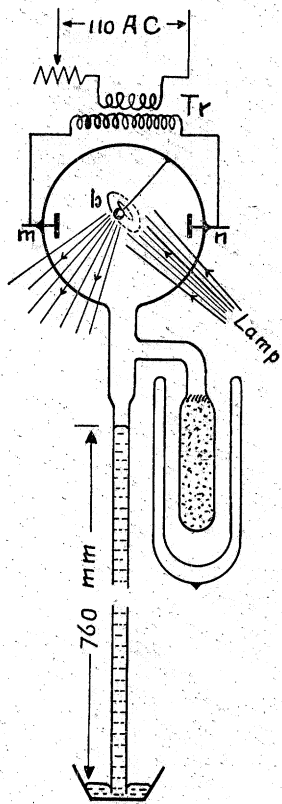

Fig. 1.
a) Attach to the discharge vessel a barometric tube set in a dish of mercury, as shown in Fig. 1. As the air is absorbed by the charcoal cooled to the temperature of liquid air the mercury rises in the barometric leg giving a visual indication of the degree of exhaustion.
b) Seal in two electrodes (shown by *m* and *n* in Fig. 1) to which are attached wires from an induction coil, or from the secondary of a small transformer. As the exhaustion proceeds the electric discharge will begin to pass when the Geissler vacuum is reached. This is a very accurate indicator.
c) Mount a small pyrex glass bead delicately on a long slender solid fiber of the same glass within the discharge vessel. When thus mounted (Fig. 1, *b*) the bead will be free to vibrate in any azimuth, and may be set in motion by gently jarring the vessel. When the pressure within is atmospheric the vibrations are soon damped out, however as the pressure is reduced (by the charcoal being cooled to the temperature of liquid air) the vibrations continue for a longer time, and when the vacuum is of the order of 0.001 mm of mercury there is little damping other than that due to the internal